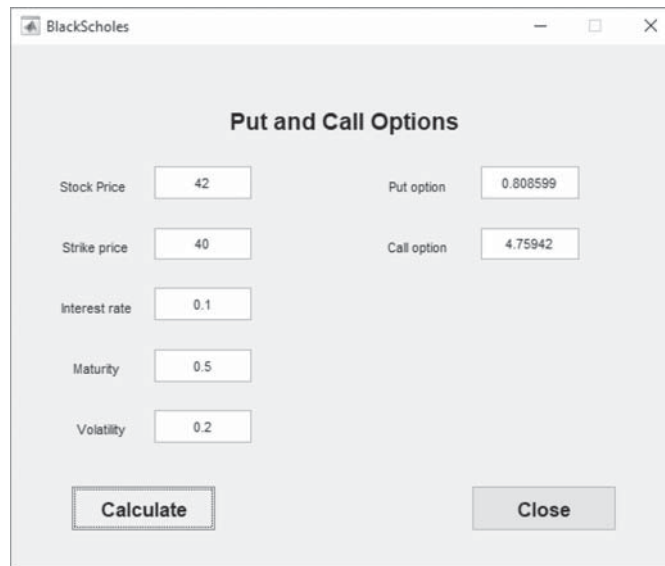

FIGURE 8.13: Final GUI with data.
Now we execute the GUI by clicking on the Run icon. Then we enter the values required and the results are shown in Figure 8.13.
5. Now we execute the file `BlackScholesSolution.exe` to open the window requesting the input data. A run produces the same window corresponding to the application shown in Figure 8.13. As we see, it is very easy to deploy MATLAB programs to use in a computer that does not have a MATLAB license.